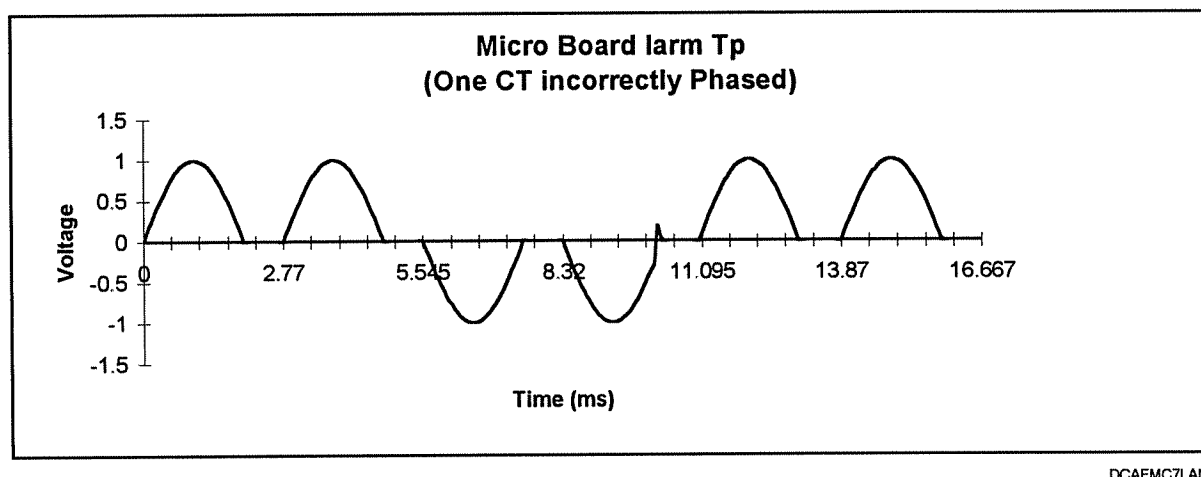

FIGURE 3-7. MICRO BOARD Iarm TP
- 17) If the voltage waveform observed on the scope has some positive segments and some negative segments as shown in Figure 3-7, then follow either the 3-CT or the 2-CT feedback phasing method, using the type your application has been configured with.